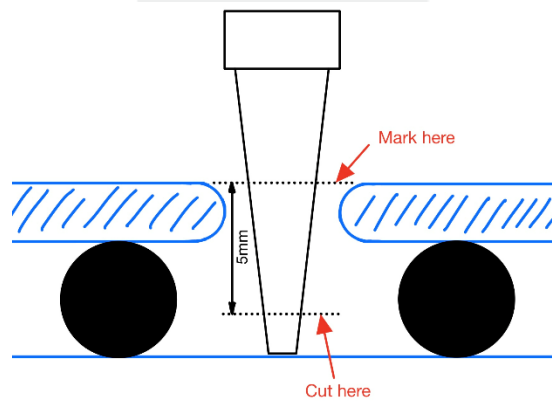

Figure 1
4. Remove the nozzle and syringe, and measure 5 mm from the level line towards the tip of the nozzle. Cut the nozzle at that distance (Figure 1).